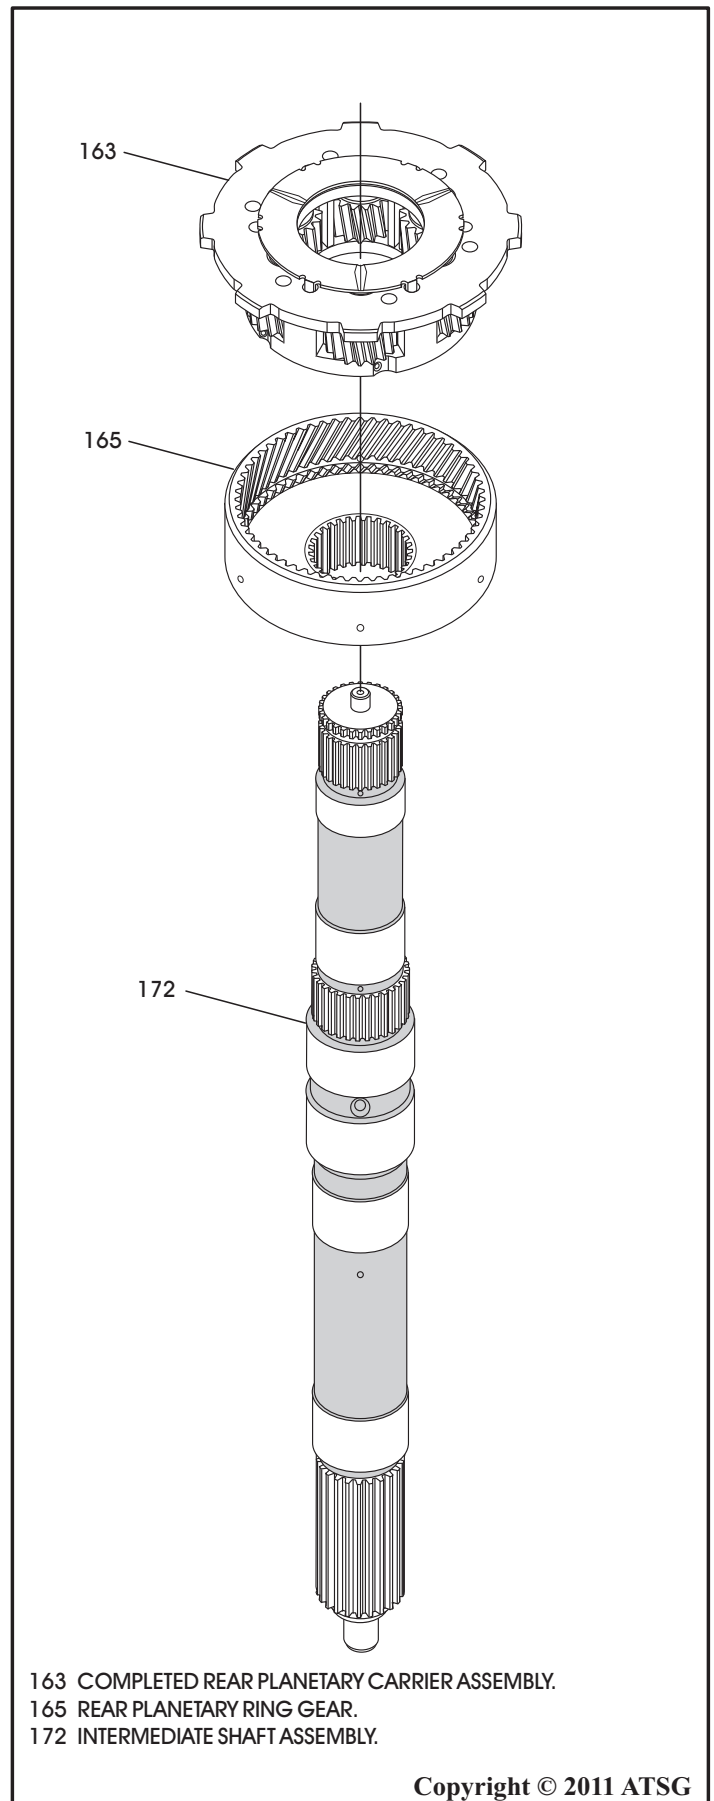

Figure 141
18. Install the rear planetary ring gear over the intermediate shaft and onto the splines, as shown in Figure 141.
19. Install completed rear planetary with washers, as shown in Figure 141, by rotating into position in ring gear.